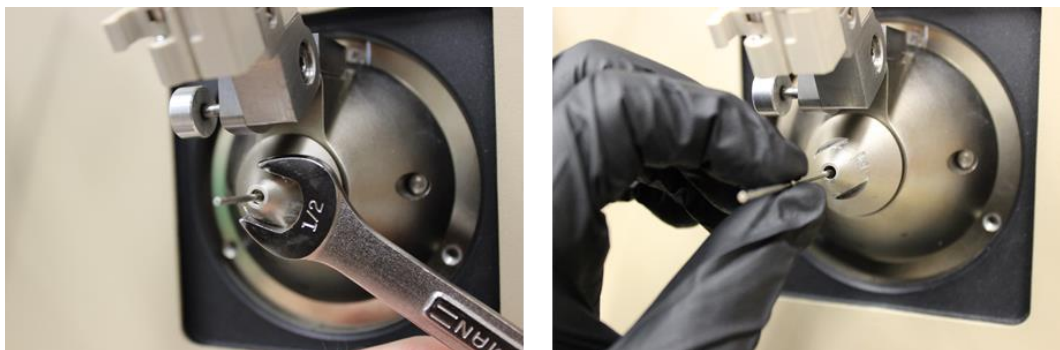

Figure 1.18 – Changing the inlet capillary
5. Pull out the old capillary and immediately replace it with a new/clean capillary (Figure 1.18).
4. Un-tighten the capillary nut that secures the inlet capillary with a ½ inch wrench and completely remove the nut as well as the inlet capillary (Figure 1.18).